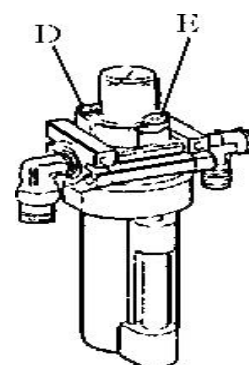

Fig 23
For continuous operation, tread twice every time, drop down a drip of oil, otherwise adjust the screw (D) that controlled oil enters with minus screwdriver. (Fig 23)